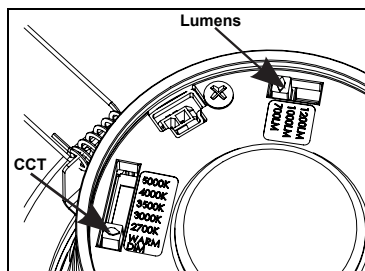

Figure 4
**Step 4.** On fixture, select CCT and lumen output desired (Fig 4) by lifting cap and using (2) switches provided. Factory setting for CCT is 3000K and lumen output is 1000L.